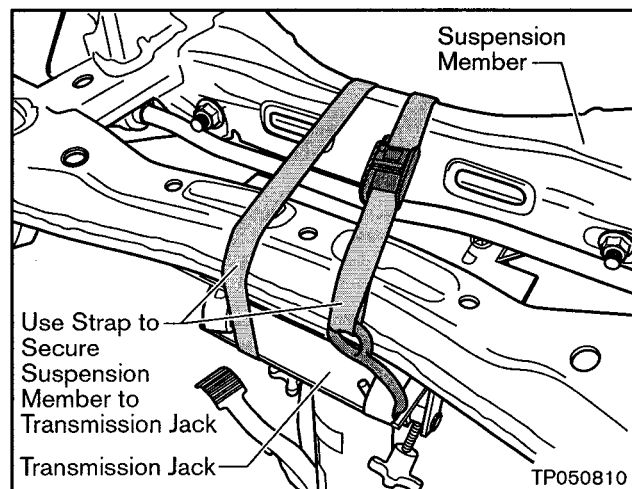

Figure C4
2. Secure the rear suspension member to the transmission jack with a suitable device, such as a tie-down strap. (See Figure C4).